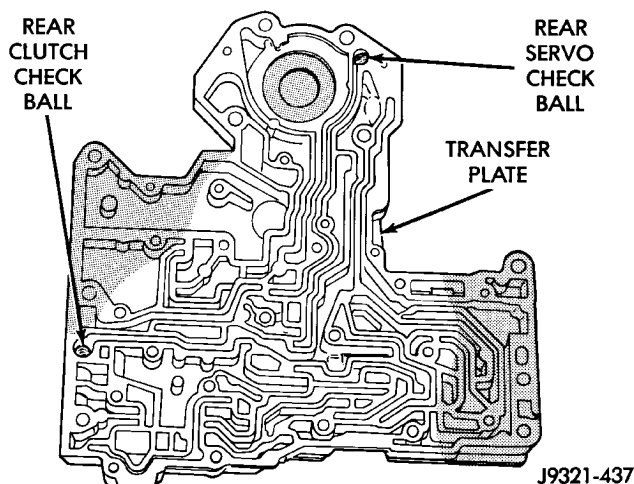

Fig. 64 Rear Clutch And Rear Servo Check Ball Locations
(35) Remove rear clutch and rear servo check balls from transfer plate. Note check ball location for assembly reference (Fig. 64).